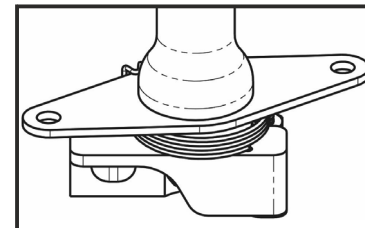

Fig. 1
- 3.3 Now insert the return spring between the base and the bellcrank as shown in figure 1 and 3. Insert the M8 screw back in place and tighten the safety nut as required. If you have problems getting it all back together use figure 3 as a guideline.